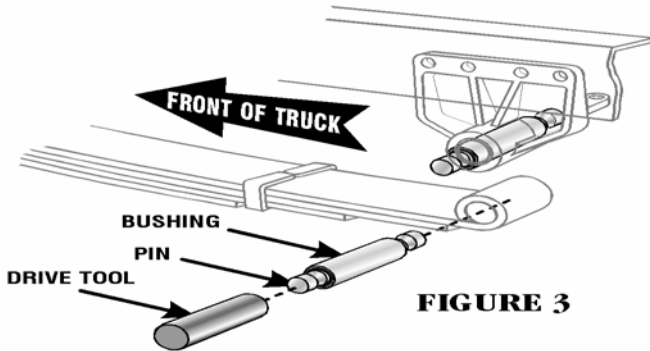

FIGURE 3
4. Coat bushing with a white lithium grease or an anti-seize compound (see Figure 3).
5. Insert the URO® Shackle Bushing Pin into the Bushing Drive Tool, insert end with locator hole at the end of the pin (see Figure 3).
6. Align URO® Shackle Bushing with bore of leaf spring eye. Using an air impact hammer and Bushing Drive Tool, press Bushing and Pin into leaf spring eye together (see Figure 3).